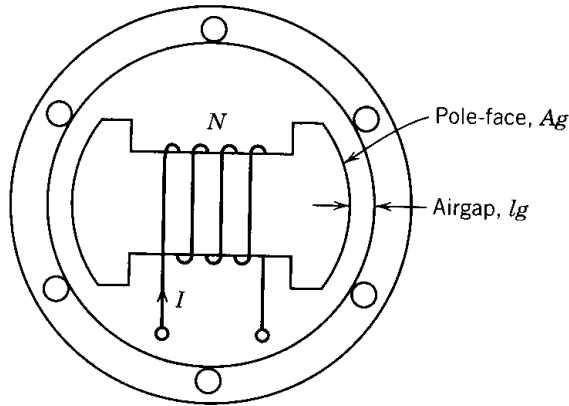

FIGURE P1.7
1.7 A two-pole synchronous machine, as shown in Fig. P1.7, has the following dimensions: